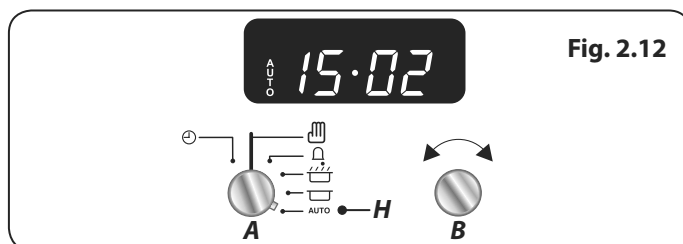

Fig. 2.12
5. Turn the **Timer (A)** knob to the **Auto (H)** setting (**Fig. 2.12**). If the display shows the current time and the word 'AUTO' the oven is set to turn on and off.